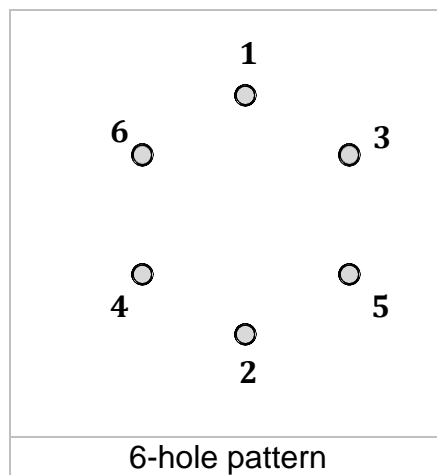

Figure 1 – Star pattern method - torque sequence
Properly torque the wheel lug nuts to the correct specification using the star pattern method (see Figure 1). The lug nuts should be torqued between 105 ft-lbs – 115 ft-lbs.
- **If no damage is observed**, reinstall the wheel and torque the lug nuts between 105 ft-lbs – 115 ft-lbs using the star pattern method (see Figure 1).